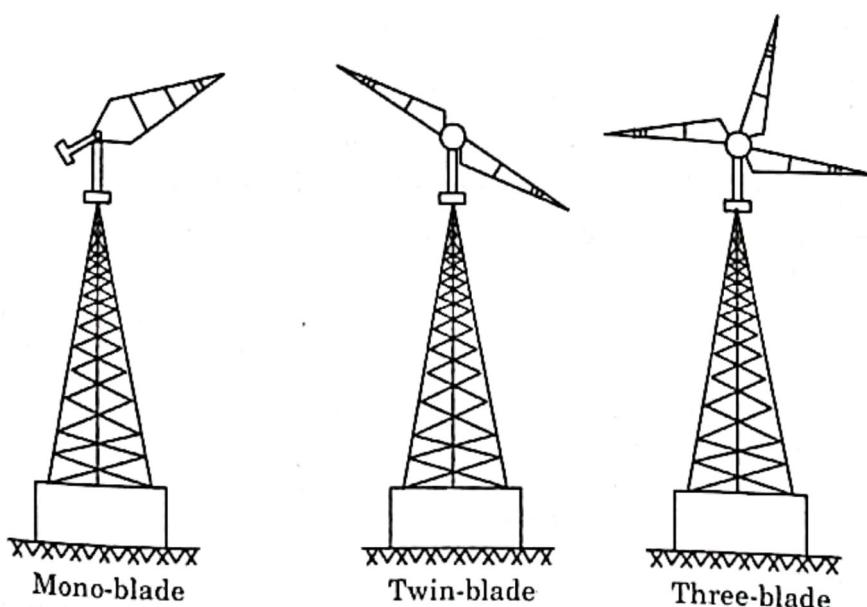

Fig. 4.13.2. Horizontal axis propeller type wind turbine generator unit.
- Figure :** Refer Q. 4.13 (Fig. 4.13.2), Page 4-20M, Unit-4.